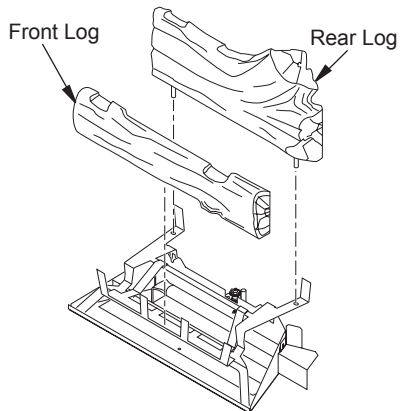

Figure 25 - Installing Front and Rear Logs
- Place front log onto front of grate sliding log all the way forward against grate fingers (see Figure 25).
- Insert pegs on bottom of rear log into holes in rear of grate (see Figure 25).